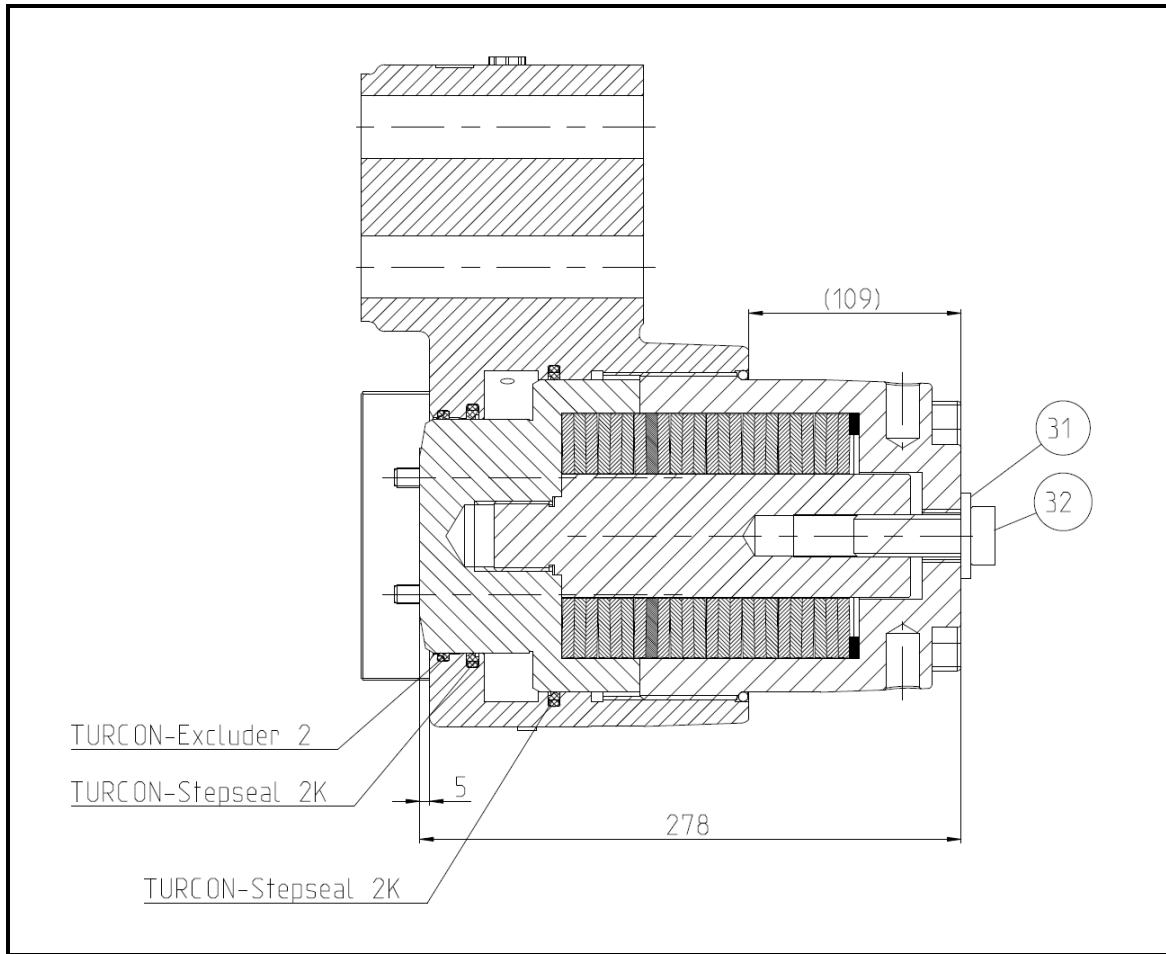
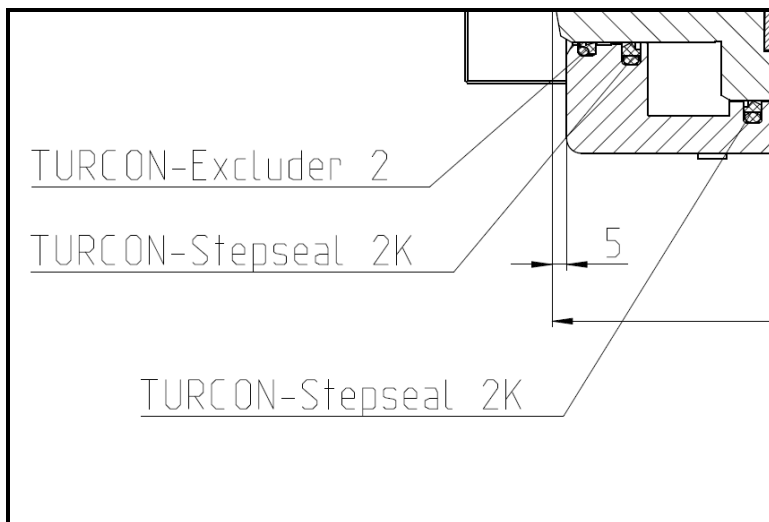

Fig. 11.2
Fig. 11.3
- Remove the Turcon Excluder 2 (item 5), then the Turcon Stepseal 2K (item 4) and item 28, Turcon Stepseal 2K , from the brake housing (item 2). Insert the new seal into the brake housing. In doing so, ensure the correct fitting position of the seal (see Fig. 11.3). This should only be carried out by hand, so that the sealing edge is not damaged. To make fitting easier, the seal can be bent into a kidney shape and placed into the groove. Slightly oil the seal. Push the piston in with a press or, using a plastic hammer, hit it centrally into the cylinder borehole until it comes to a stop. Then reassemble the disc springs, shim rings and spring seating body. Consider the dimension 278 shown in Fig. 11.2 during assembly. Then apply oil pressure onto the brake calliper and secure the open position with the securing screw (item 32).